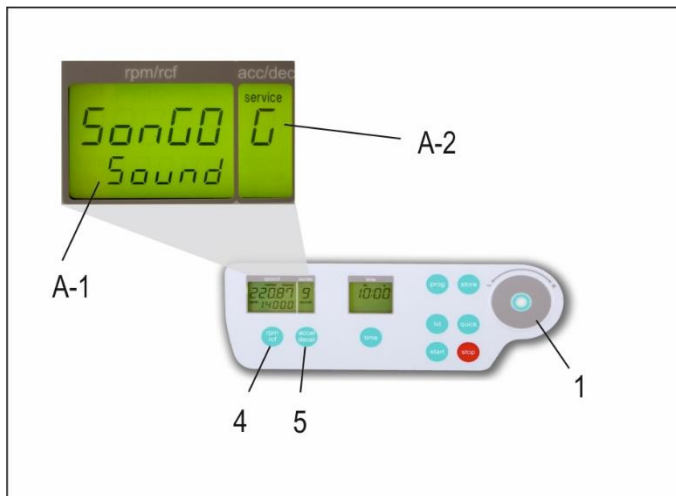

Figure 9
Proceed as illustrated, under point 1.9.1, to enter this program mode, press the key, "accel/decel" (5). In the display, "accel/decel" (A-2) flashes the word, "service". Select the letter, "G" with the control field (1). As a result, appearing in the display, "rpm/rcf" (A-1), the word "SonGo/Sound". After pressing the key „rpm/rcf“ (4), select a song with the control field (1), (see Figure 9).